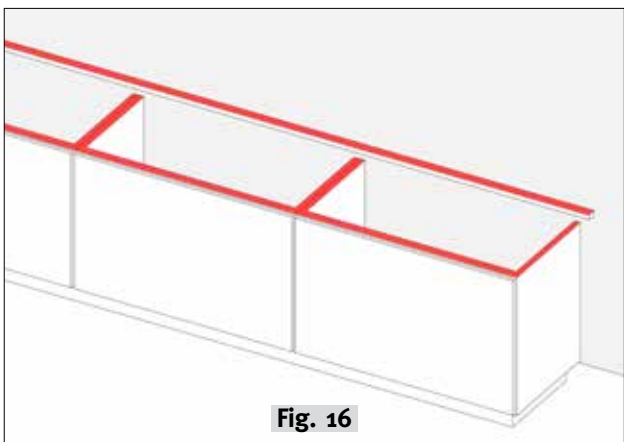

Fig. 16
- 3c. The worktop should have full support on the left, right, front and back side of the PITT cooking unit (**fig. 16**). This prevents tension in the worktop from the weight of the cooking unit. We advise to support the worktop with a ladder frame.